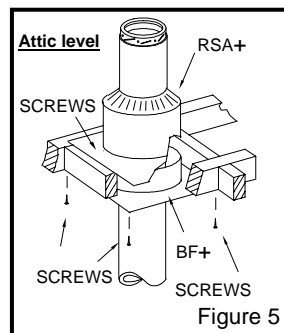

Figure 5
- 7 At the attic level, install a firestop plate (BF+), from below and an attic radiation shield (RSA+) from above (see Fig. 5).
**(U.S. ONLY)** Install the roof radiation shield in the roof joists. This shield consists of four metal plates supplied with the roof flashing. Nail one plate to each side of the joist using (2) - 2 1/2" nails.